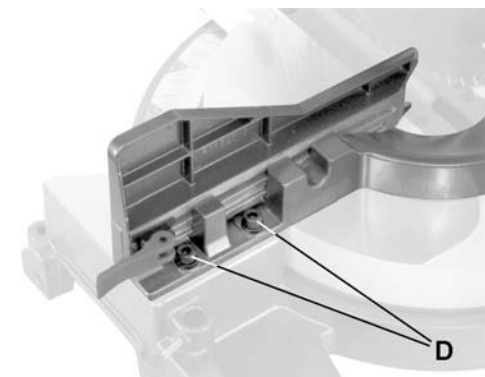

Figure 18
1. Loosen four *fence locking screws* (D, Fig. 18).